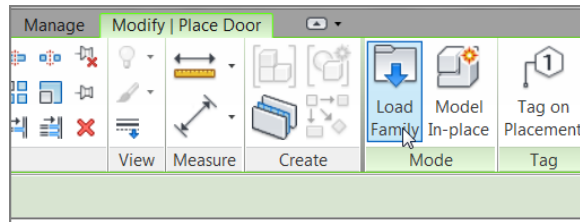

FIGURE 1.51: You can load an `.rfa` file during the placement of a hosted family.
4. On the Modify | Place Door tab, click the Load Family button, as shown in Figure 1.51. This opens the Load Family dialog.